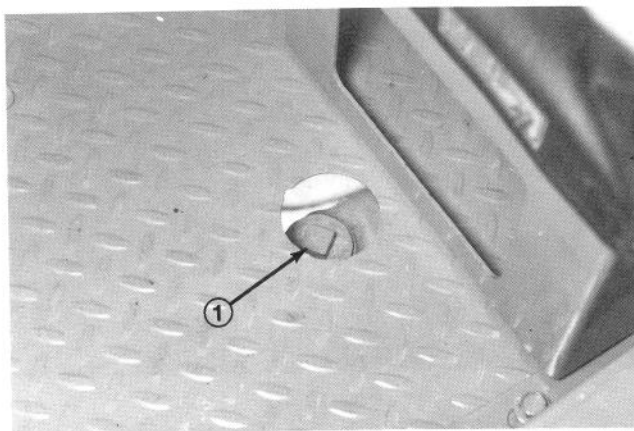

Figure 14
1. The master cylinder is located under the floor panel on the left side. A hole is cut in the panel for access to the master cylinder cap (Figure 14).